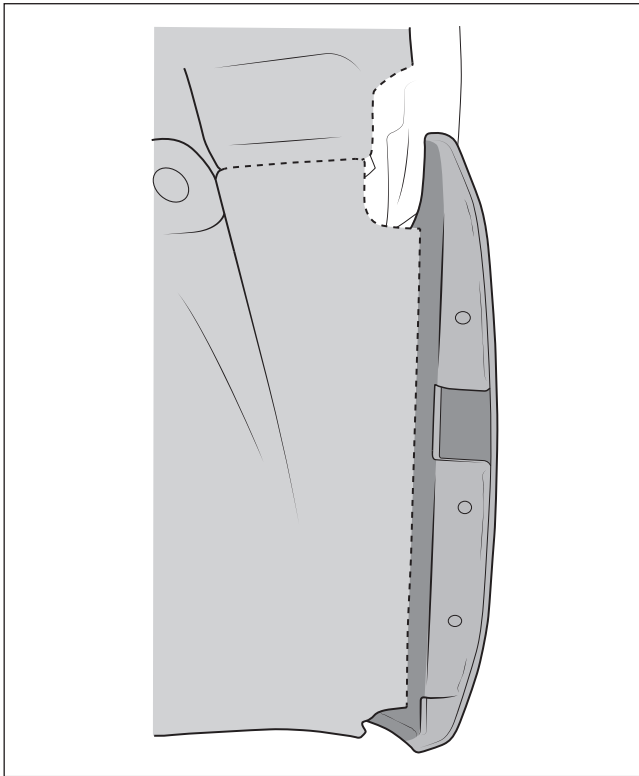

Figure 26
3. If necessary, trim the front edge of both inner fender liners to provide approximately 1/2" gap between the liner and the bumper corner (fig. 26).